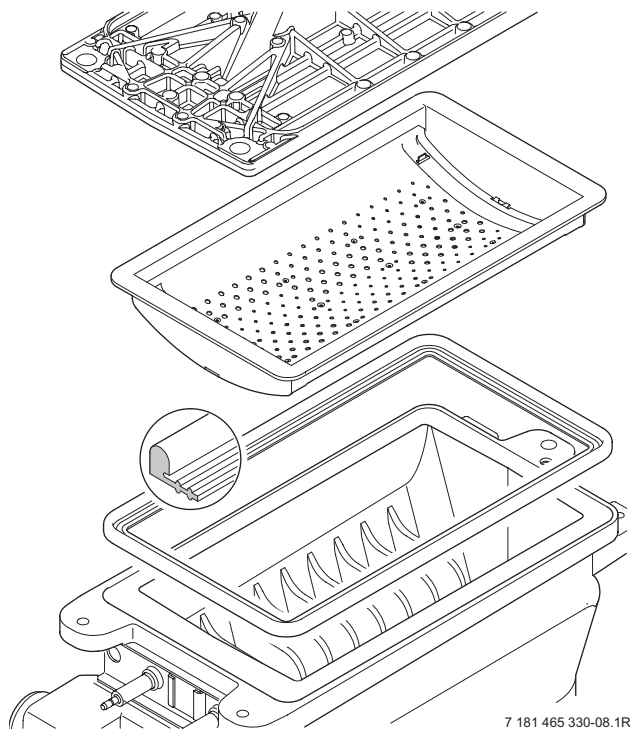

Fig. 56
- Remove burner and clean components. Do not use a wire brush. Refer to fig. 56.